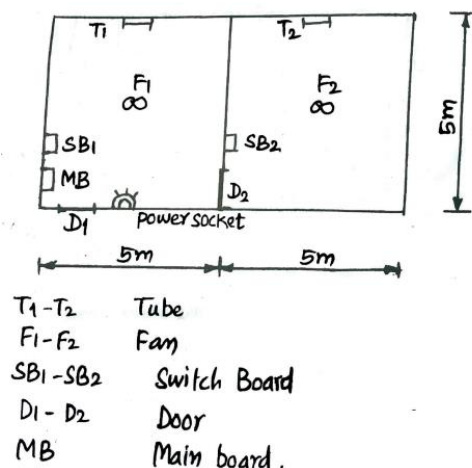

Fig. No. 1
- a) Calculate the length of phase wire & neutral wire for the residential installation as shown in the Fig. No. 1.